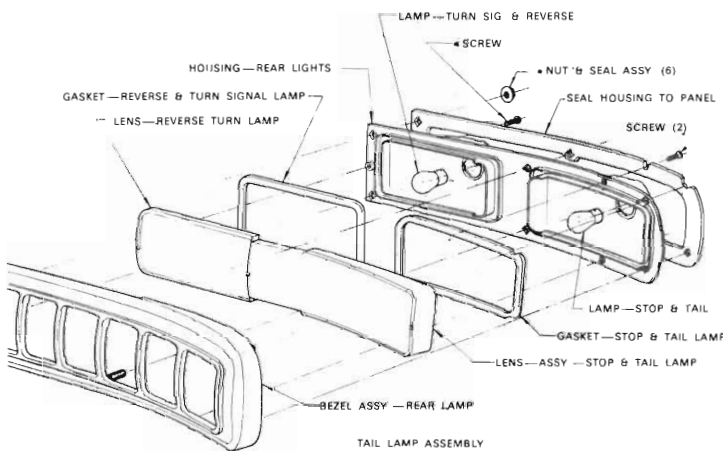

Fig. 14 - Charger tail lamp assembly (disassembled view)
(1) From inside the luggage compartment remove the six nuts attaching the rear lamp bezel assembly to the lower deck panel.
(2) Pull out the bezel assembly and remove lens from lamp assembly locating pins (refer Fig. 14).